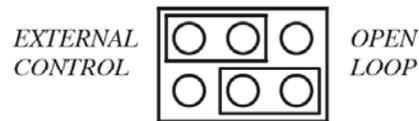

Figure 7.3: Switch Position for Closed Loop Operation
- Setup the control selection as in Fig. 7.3.